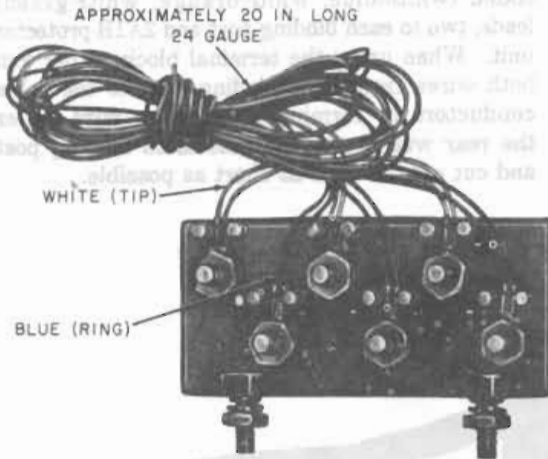

Fig. 8—6A2-3 Terminal Block
(c) **6A2-3 Terminal Block (Fig. 8):** Used at the junction of distribution cable and service wire where only fusing is required. The terminal block is 3-pair nonprotected, equipped with twelve 24-gauge (blue, ring and white, tip) leads, two to each binding post.
7.08 Fuse wiring is required when buried cables containing 19- or 22-gauge conductors are exposed to power of over 300 volts to ground. To provide fuse wire protection, nonprotected terminal blocks, such as the 6A2-3 terminal block (Fig. 8), should be used at the cable, service wire junction.